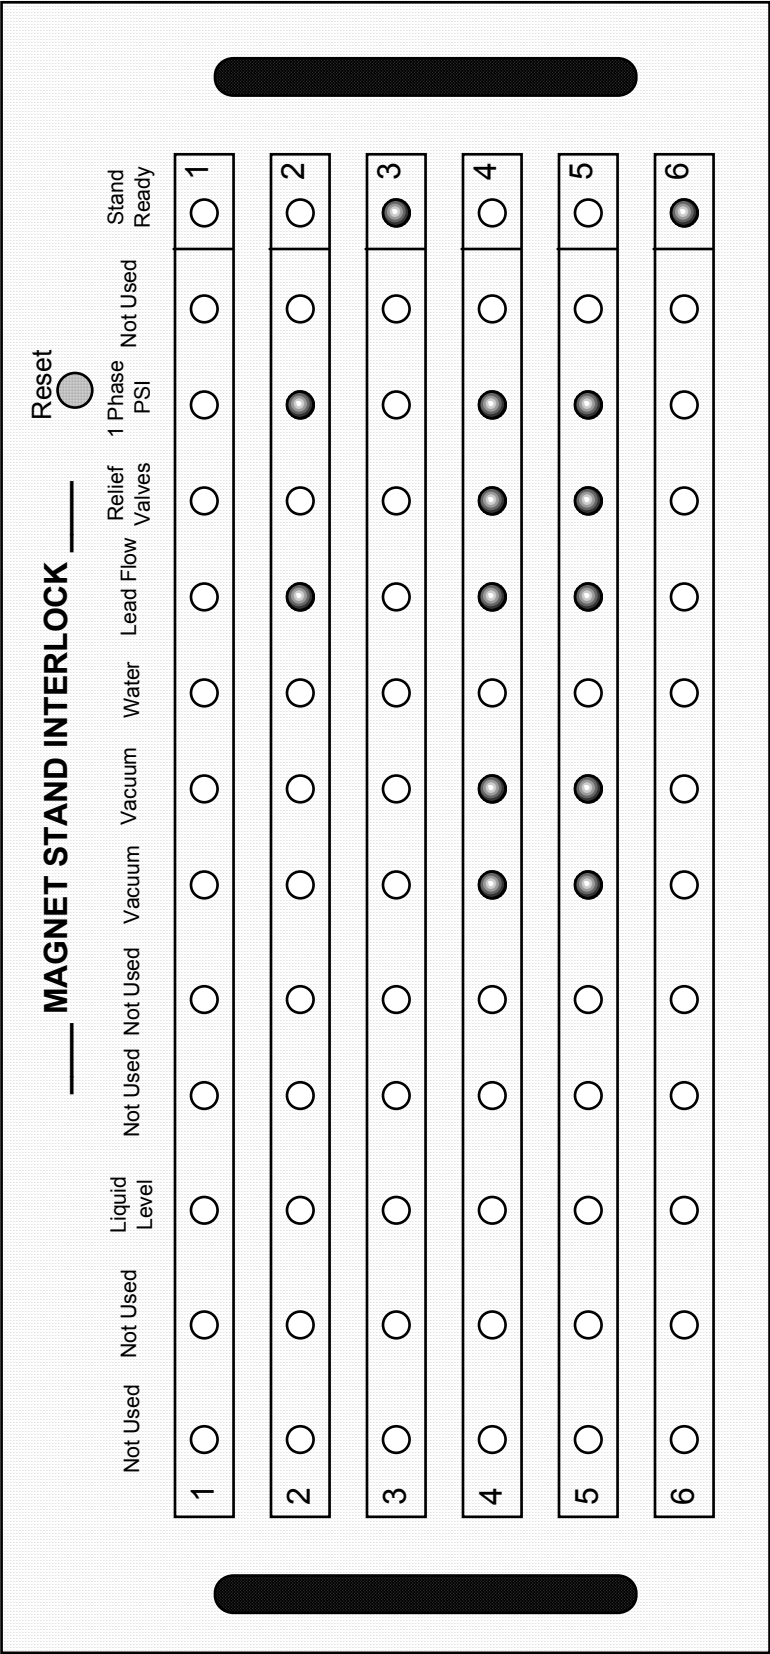

Fig. 2
- 4.2 Verify the Magnet Stand Interlock box (Fig. 2) is in the ready mode for stand 3. This box located at the top of rack #5 is considered expendable and is slated for future removal but until then is an integral part of the interlock procedure. All fault lights have been disabled for stand 3, thus the green indicator lamp should remain on. If not, depress the reset switch.